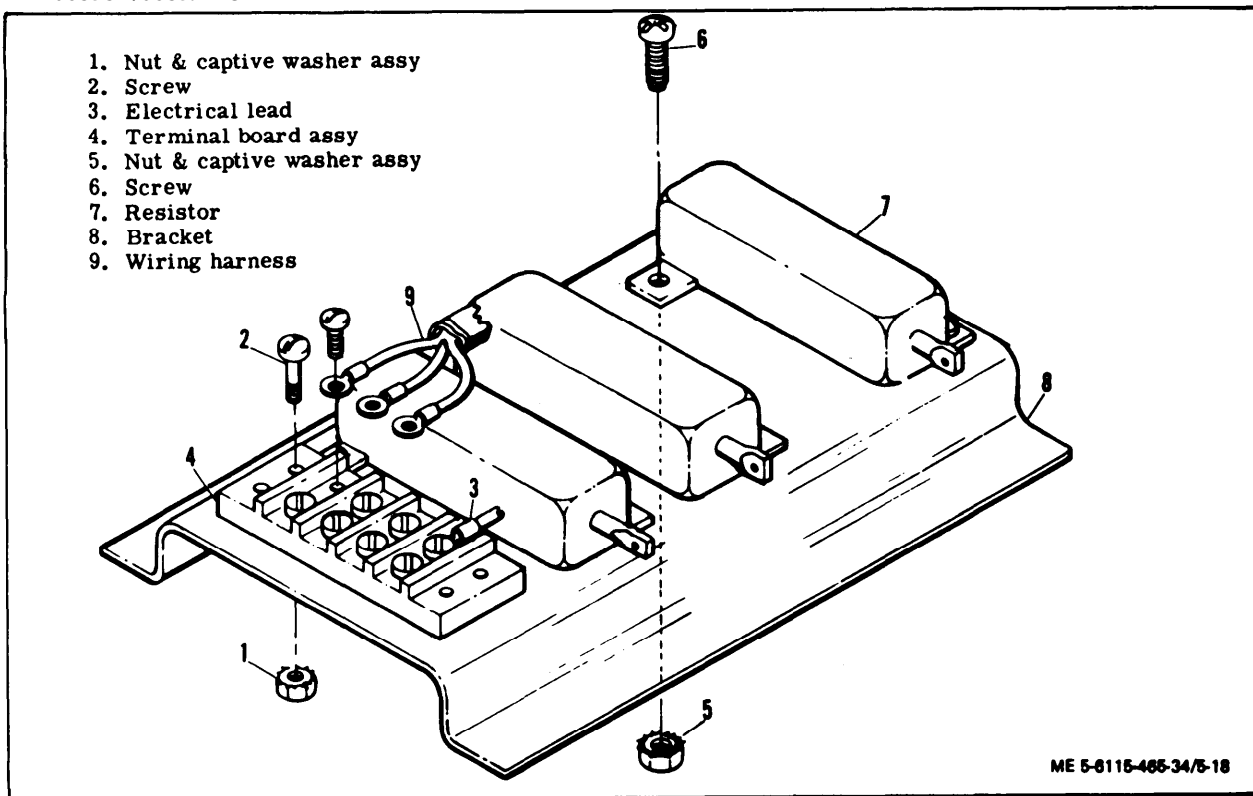

Figure 5-18. Tactical Relay Resistor Assembly, Exploded View
(15) Replace defective components of tactical relay resistor assembly using figure 5-18 as a guide.